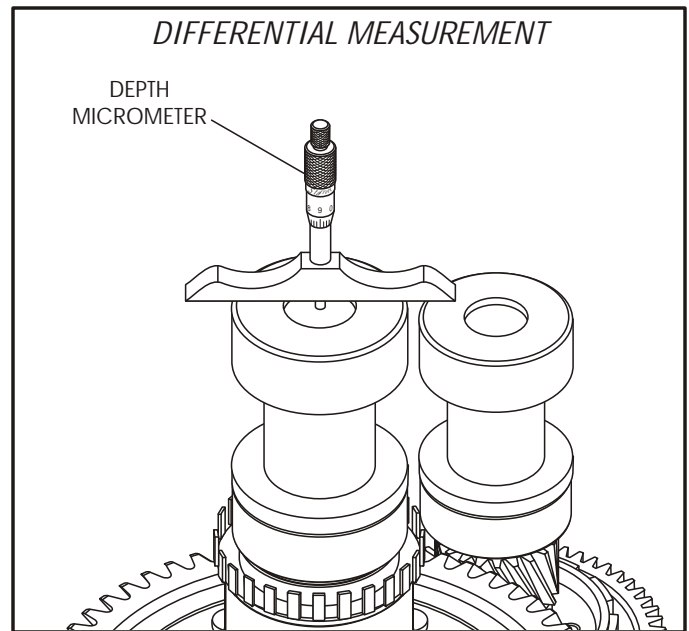

Figure 141
61. Measure the depth of the plunger on the special tool (307-417) for the differential case bearing, using a depth micrometer (See Figure 141).